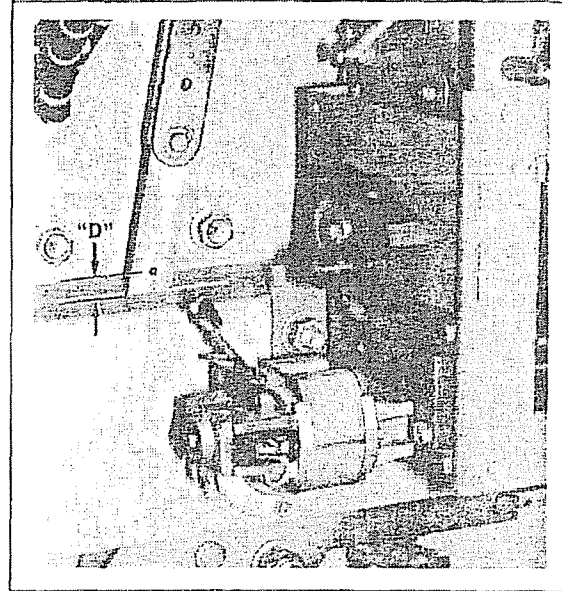

Figure 14
4.1.3 ARCING CONTACT WEAR MEASUREMENTS - The remaining life of a pole unit may be determined by a measurement of the arcing contact wear. This is accomplished by measuring the position of a reference mark, located on the opening spring link, with respect to the breaker frame. See Figure 14.
1. Measure and record the perpendicular distance from the top of the frame to the center of the red dot. See Figure 14.